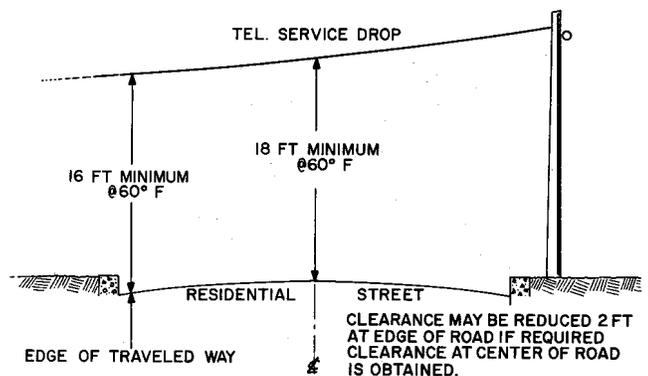

Fig. 3—Service Drop Over Residential Street
(1) **Generally:** (Fig. 3) Clearance required when the drop wire is attached to a pole further than 50 feet from the far edge of the traveled roadway.
* Clearance height over residential street may be reduced 2 feet at the edge of the road, if the required clearance at the center of the road is obtained (Fig. 3).